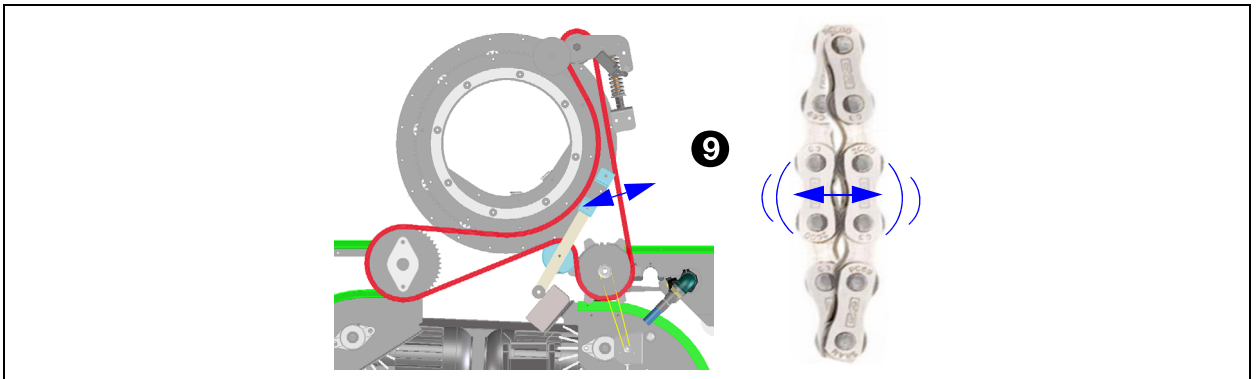

Fig. 42 - Chain deflection
5. Using the chain tensioner, set the deflection (9) of the chain to 10 mm See fig. 42.